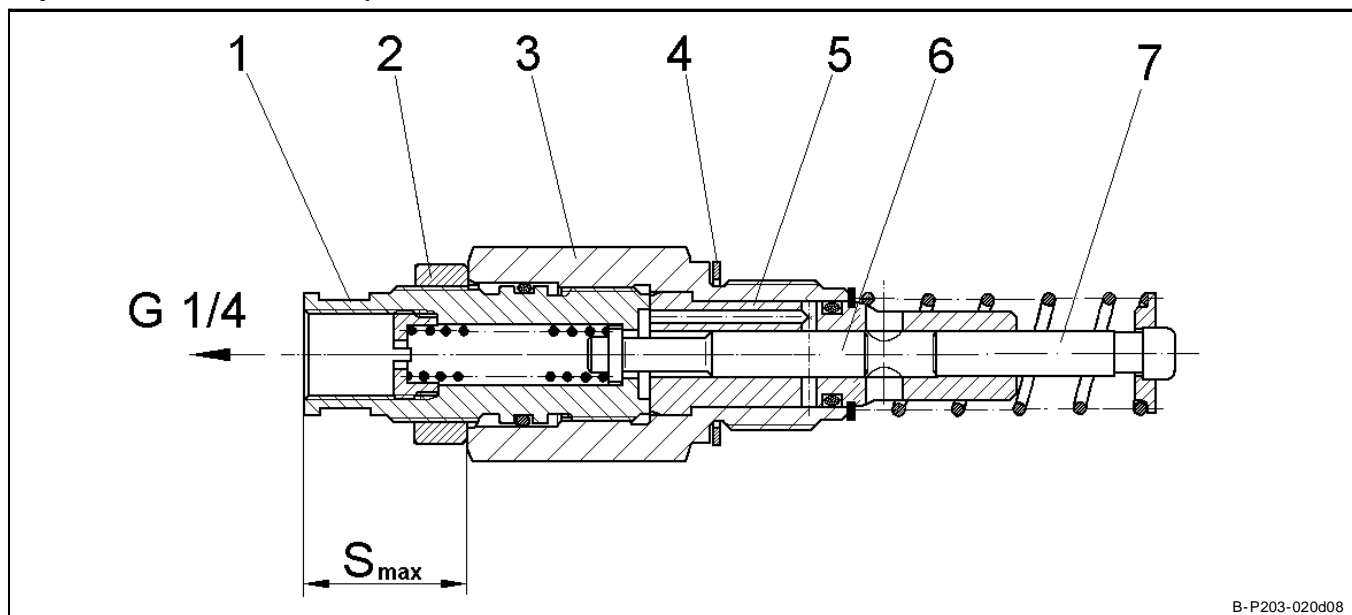

Fig. 2-1 Sectional view: adjustable element
- The pump elements are factory-adjusted to the maximum lubricant output; the adjusting dimensions "S" should be 29 ± 0.1 mm (see fig. 2-1).
- Loosen counternut 2 (fig. 2-1).
- adjusting measure " S " (fig. 2-1) 28 mm
- Loosen counter nut 3 (fig. 2-1) while holding in position pump element body 2.
- Apply the fork wrench at the threaded plug of the pump element 3 (Fig.2-1) and carefully unscrew the pump element.